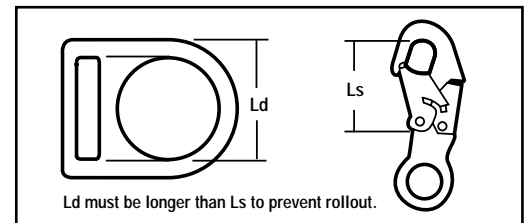

Figure 8: Never use single locking snaphooks. Use double locking snaphooks only.
1.5 Snaphook Attachment: When provided, SM/RTC double locking snaphooks are designed for attachment to D-rings with an inside diameter of 2-1/4 inches that can support 5000 pounds in the direction of the anticipated pull (See figure 8). Do not attach more than one fall protection device to one D-ring due to the possibility of accidental disengagement (roll-out).